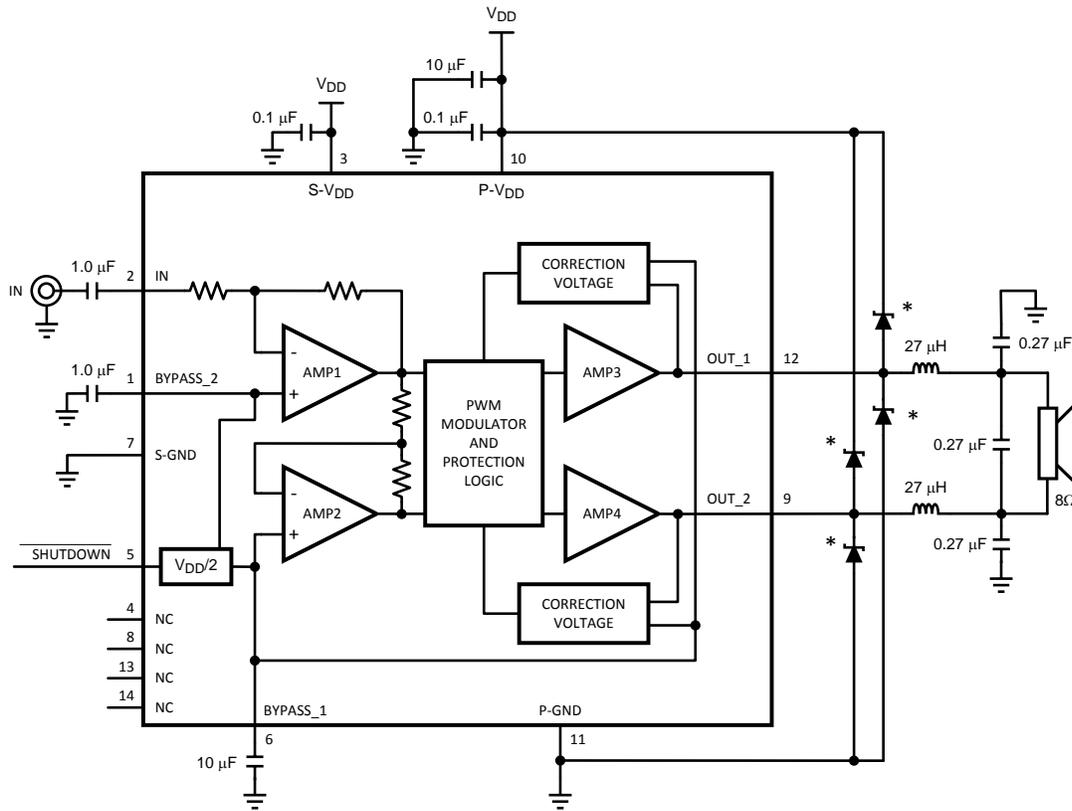

Figure 1. Typical Audio Amplifier Application Circuit (\* Zetex ZHCS506)
- (1) All voltages are measured with respect to the GND pin unless otherwise specified.
- (2) Absolute Maximum Ratings indicate limits beyond which damage to the device may occur. Operating Ratings indicate conditions for which the device is functional, but do not guarantee specific performance limits. Electrical Characteristics state DC and AC electrical specifications under particular test conditions which guarantee specific performance limits. This assumes that the device is within the Operating Ratings. Specifications are not guaranteed for parameters where no limit is given, however, the typical value is a good indication of device performance.
- (3) The maximum power dissipation must be de-rated at elevated temperatures and is dictated by  $T_{JMAX}$ ,  $\theta_{JA}$ , and the ambient temperature  $T_A$ . The maximum allowable power dissipation is  $P_{DMAX} = (T_{JMAX} - T_A)/\theta_{JA}$  or the number given in Absolute Maximum Ratings, whichever is lower. For the LM4668 typical application (shown in Figure 1) with  $V_{DD} = 12V$ ,  $R_L = 8\Omega$  stereo operation, the total power dissipation is 900mW.  $\theta_{JA} = 40^\circ\text{C/W}$
- (4) Human body model, 100pF discharged through a 1.5k $\Omega$  resistor.
- (5) Machine model, 220pF – 240pF discharged through all pins.
The following specifications apply for the circuit shown in Figure 1 operating with  $V_{DD} = 12V$ ,  $R_L = 8\Omega$ , and  $f_{IN} = 1kHz$ , unless otherwise specified. Limits apply for  $T_A = 25^\circ C$ .